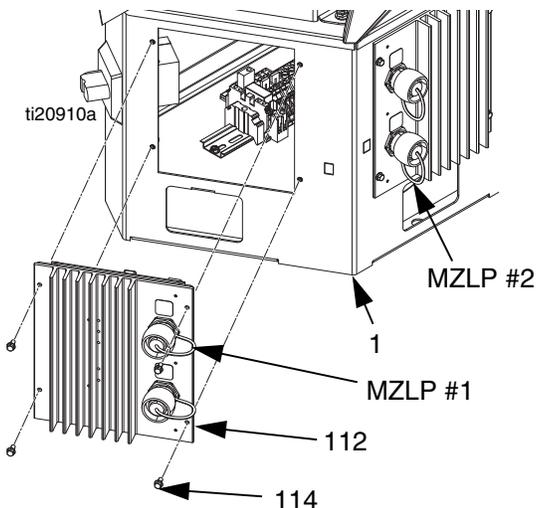

FIG. 42
- Remove four screws (114) securing MZLP (112) to electrical enclosure (1) then carefully remove MZLP from electrical enclosure. See FIG. 42.
- If replacing MZLP #1, remove the daughter card and standoffs, and re-install them on the new MZLP. See FIG. 42 for MZLP #1 and MZLP #2 identification.